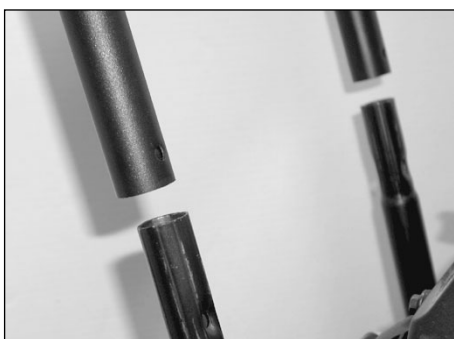

Figure 1 - Assemble Handle
1. Slide the handle assembly over the lower legs of the cart base. Use the supplied nuts and bolts to secure the handle to the legs. See Figure 1.